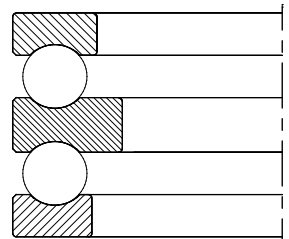

Fig. 2.17
**Double direction thrust ball bearings** (fig. 2.17) are suitable for accommodating axial forces in both directions. They consist of two shaft washers, a central housing washer located in the middle of the assembly separated by two ball and cage assemblies. These bearings do not permit any misalignment.